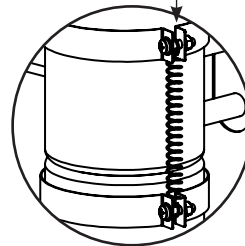

Fig 17.3
3. Fasten both boilers together using the spring as shown in the diagram (fig. 17.3).